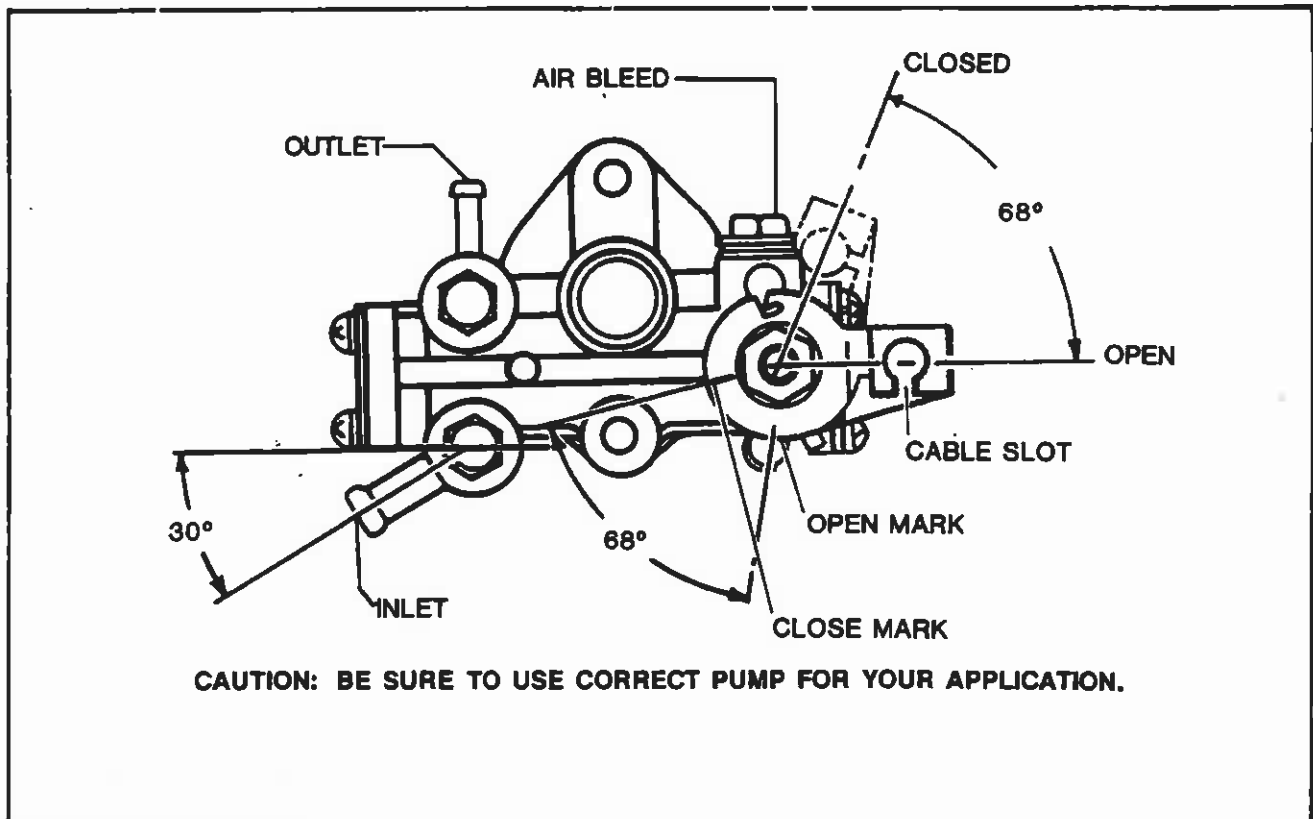

FIG. J-2 OIL INJECTION PUMP
The only adjustment of the oil pump is the setting of the pump lever. This adjustment must be made with the engine at rest and the carburetor lever in its fully closed position. See Fig. J-2.
BLEEDING PROCEDURE (Fig. J-2)
Insert the bullet end of the cable clamp into the oil pump actuator arm and rotate until the cable engages with the slot in the arm (Fig. J-2). Install one of the 2 adjusting screws and insert it in the cable housing bracket on the face plate. Install the retaining nut and tighten securely. Slide the oil injection cable through the cable bracket installed on the oil injection bracket assembly. Slide the oil injection cable housing back over the cable and through the cable bracket. Install the other end of the cable through the control cable bracket.
Install a cable clamp on the end of the oil injection cable loosely. Adjust the pump lever to line up the closed mark with the pump mark when the carburetor throttle lever is closed (see Fig. J-2). Remove the Phillips head bolt from the top of the intake manifold. Insert the banjo bolt (12) through the oil injection check valve (13) and install in the top of the intake manifold.